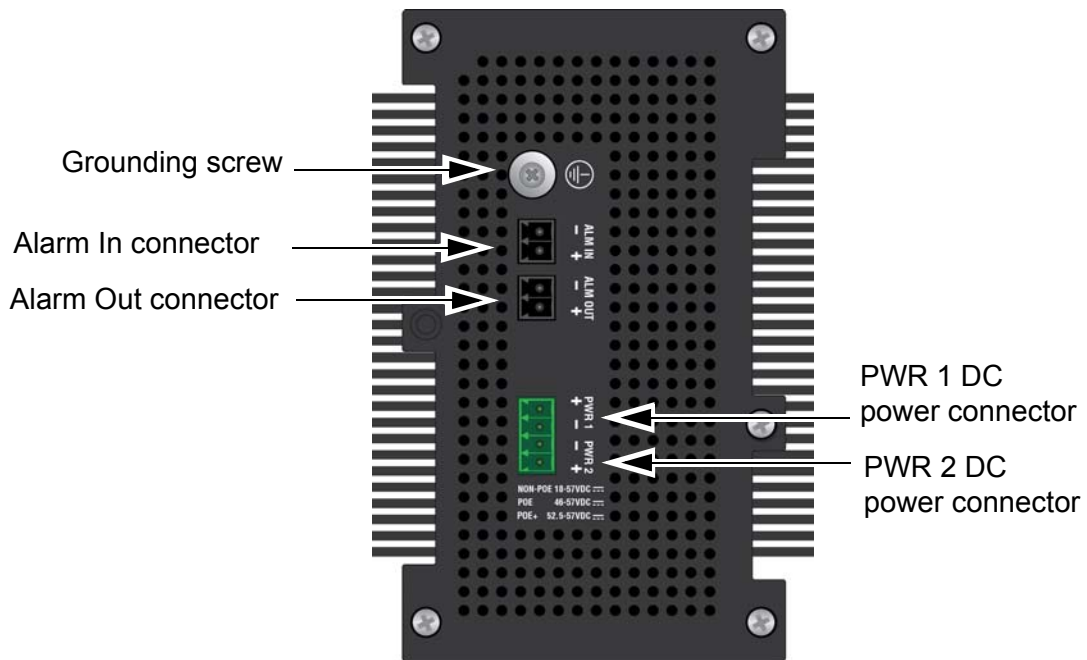

Figure 5. Top Panel of the IE340-12GP, IE340-20GP, and IE340L-18GP Switches
**Top Panels** Figure 5 identifies the components on the top panels of the IE340-12GP, IE340-20GP, and IE340L-18GP Switches.